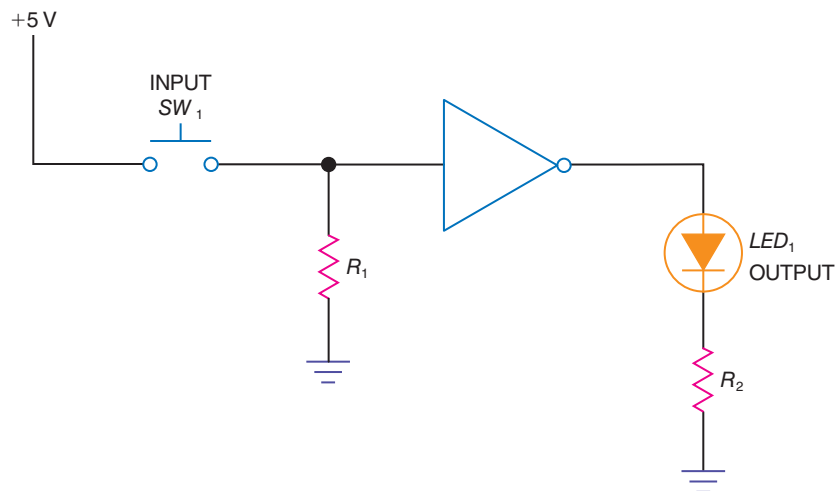

Fig. 5-48 Interfacing problem.
- 5-32. Refer to Fig. 5-48. Component R_1 is called a _____ resistor.
- 5-33. Refer to Fig. 5-48. Closing SW_1 causes the input to the inverter to go _____ (HIGH, LOW) and the LED _____ (goes out, lights).
- 5-34. Refer to Fig. 5-48. With SW_1 open, a _____ (HIGH, LOW) appears at the input of the inverter causing the output LED to _____ (go out, light).